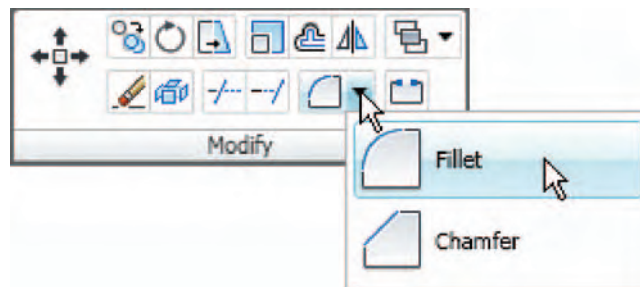

Fig. 5.41 Select **Fillet** from the menu in the **Home/Modify** panel
2. Call Fillet – *click* the arrow to the right of the tool icon in the **Home/Modify** panel and select **Fillet** from the menu which appears (Fig. 5.41), *pick* its tool icon in the **Modify** toolbar, *pick* **Fillet** from the **Modify** drop-down menu, or *enter* **f** or **fillet** at the command line which then shows: